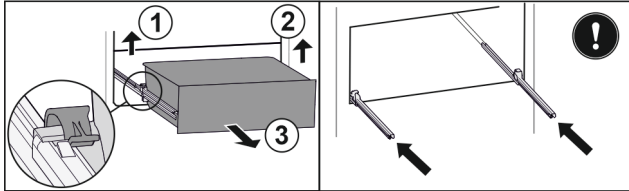

Fig. 103
- ▶ Lift left clamp and simultaneously pull drawer forwards on the left. Fig. 103 (1)
- ▶ Lift right clamp and simultaneously pull drawer forwards on the right. Fig. 103 (2)
- ▶ Remove drawer to the front. Fig. 103 (3)